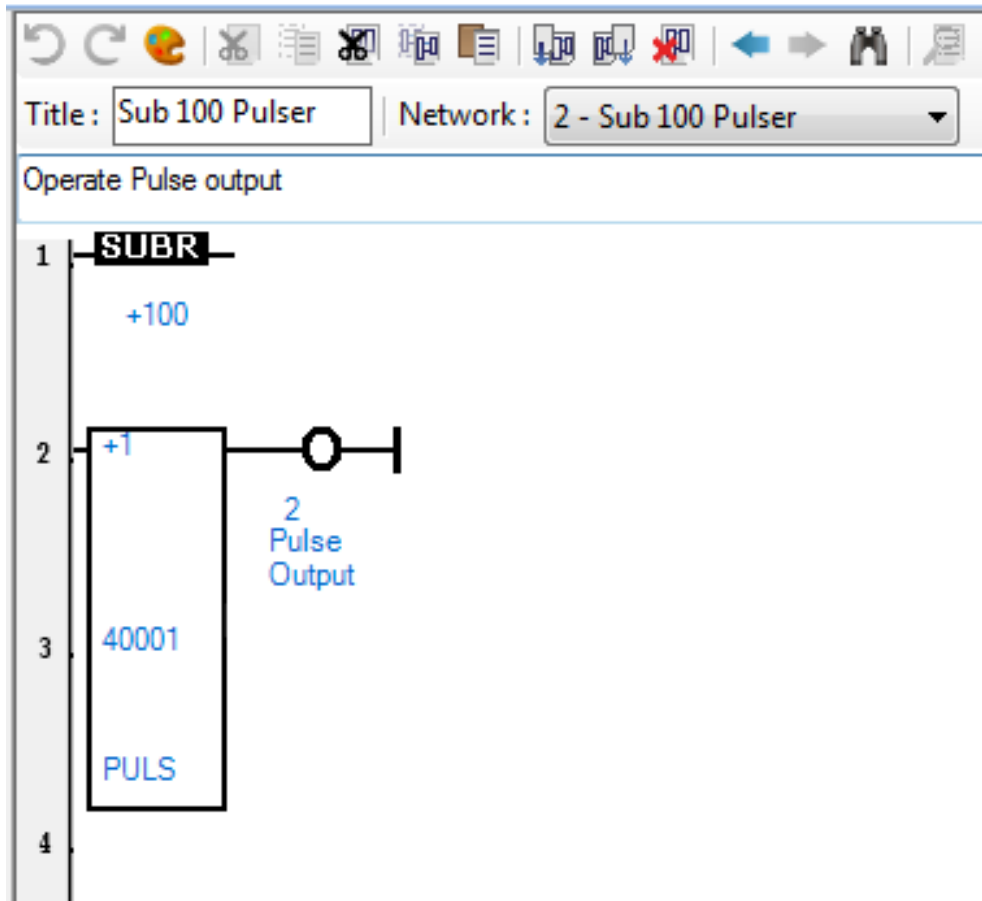

Figure 46: Subroutine 100 Network
- **Create** the logic as shown in Figure 46.